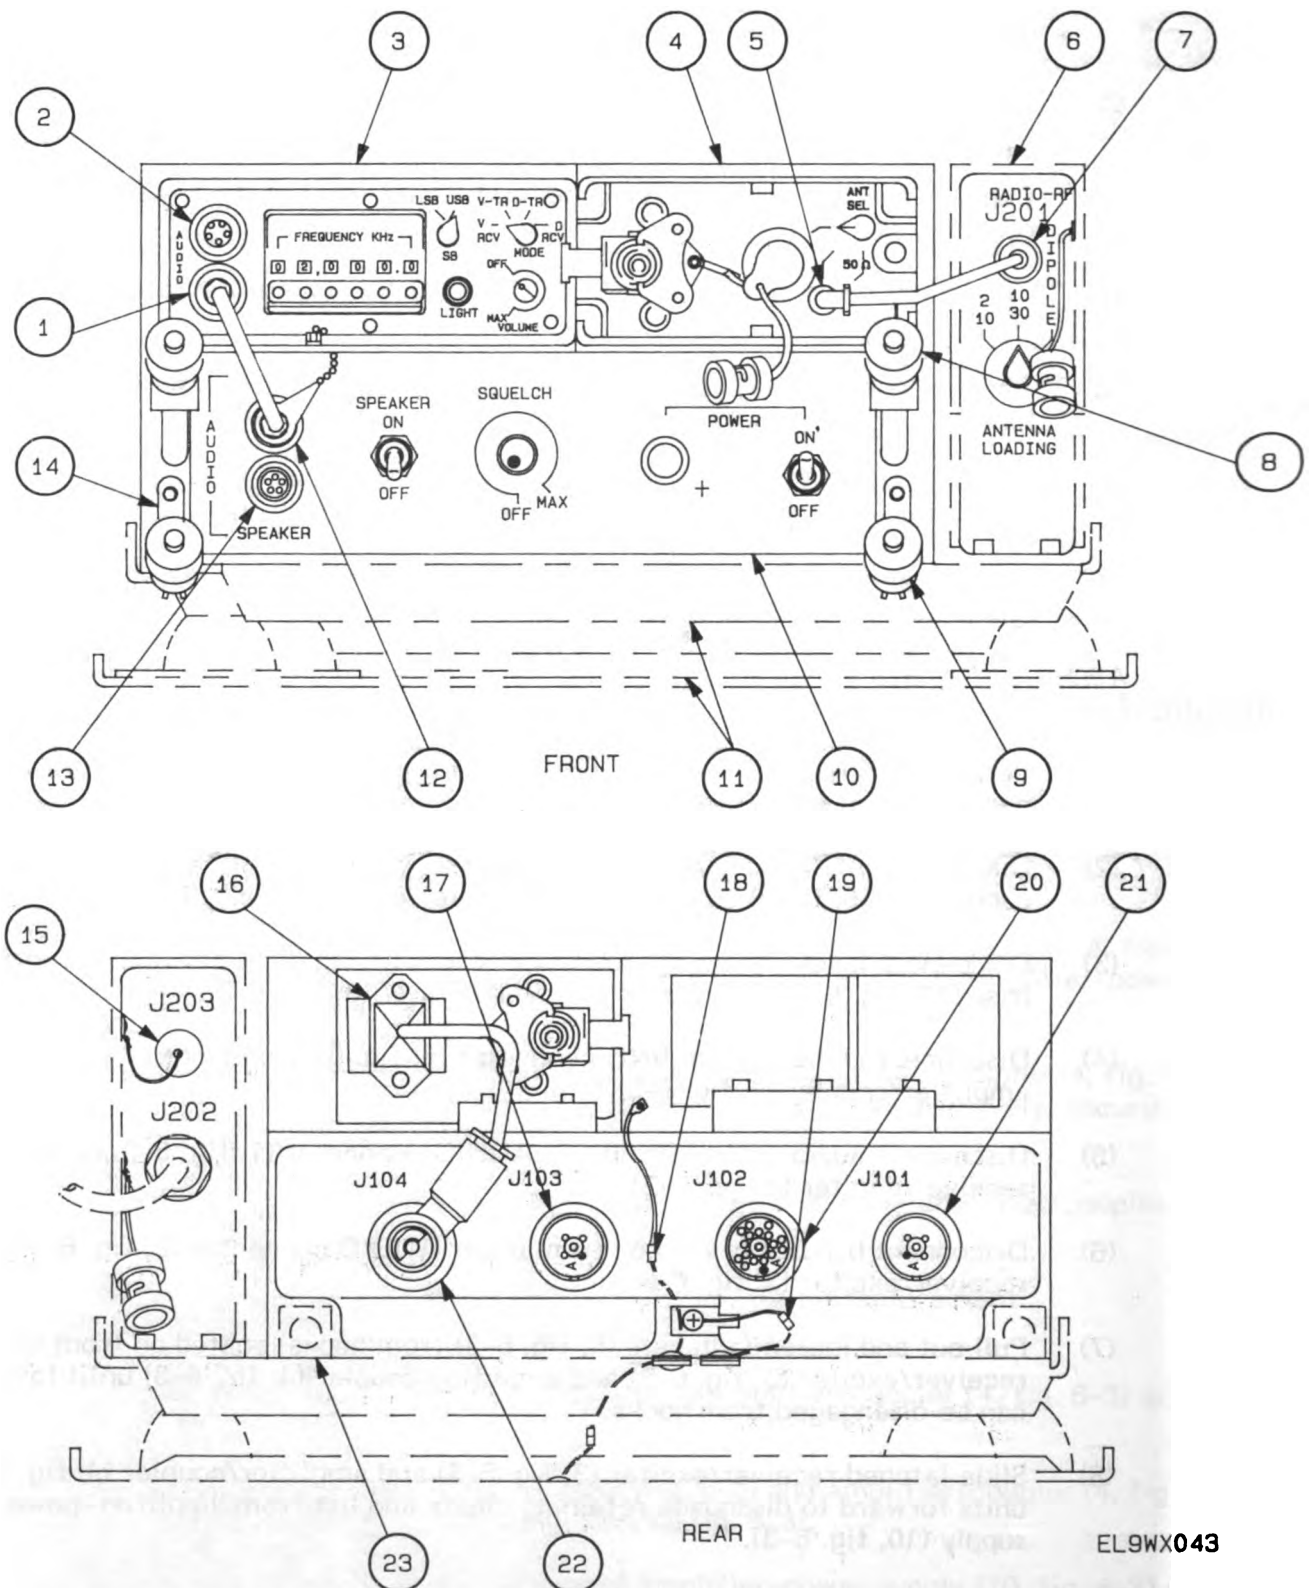

Figure 6-3. Removal and Installation of AN/GRC-213 Units and Cables
- (1) Verify POWER circuit breaker on amplifier-power supply is set to OFF. If necessary, set circuit breaker to OFF.
- (2) Disconnect AN/PRC-104A power cable from AN/PRC-104A power input connector (16, fig. 6-3) on rear of amplifier/coupler (4, fig. 6-3).
- (3) Disconnect quick-release ground connector (18, fig. 6-3) between mounting base (11, fig. 6-3) and rear of receiver/exciter (3, fig. 6-3).
- (4) Disconnect rf cable from BNC connector (5, fig. 6-3) on front of amplifier/coupler (4, fig. 6-3).
- (5) Disconnect audio cable from lower AUDIO connector (1, fig. 6-3) on front of receiver/exciter (3, fig. 6-3).
- (6) Disconnect handset or cw key from upper AUDIO connector (2, fig. 6-3) on receiver/exciter (3, fig. 6-3).
- (7) Pull out and loosen fasteners (8, fig. 6-3) from hooks located on front of receiver/exciter (3, fig. 6-3) and amplifier/coupler (4, fig. 6-3) until fasteners can be disengaged from hooks.
- (8) Slide latched receiver/exciter (3, fig. 6-3) and amplifier/coupler (4, fig. 6-3) units forward to disengage retaining cleats and lift from amplifier-power supply (10, fig. 6-3).
- (9) Lay latched receiver/exciter (3, fig. 6-3) and amplifier/coupler (4, fig. 6-3) on a flat surface and unfasten front and rear latches, respectively, securing the receiver/exciter and amplifier/coupler together.
- (10) Carefully separate receiver/exciter (3, fig. 6-3) from amplifier/coupler (4, fig. 6-3).
- (1) Secure receiver/exciter (3, fig. 6-3) to amplifier/coupler (4, fig. 6-3) and fasten latches.
- (2) Place latched receiver/exciter (3, fig. 6-3) and amplifier/coupler (4, fig. 6-3) on top of amplifier-power supply (10, fig. 6-3).
- (3) Slide latched units toward rear of amplifier-power supply (10, fig. 6-3) until receiver/exciter (3, fig. 6-3) and amplifier/coupler (4, fig. 6-3) fully engage retaining cleats on amplifier-power supply.
- (4) Tighten fasteners (8, fig. 6-3) over hooks located on front of receiver/exciter (3, fig. 6-3) and amplifier/coupler (4, fig. 6-3) until both units are securely attached to top of amplifier-power supply (10, fig. 6-3).
- (5) Connect audio cable to lower AUDIO connector (1, fig. 6-3) on receiver/exciter (3, fig. 6-3).
- (6) Connect handset or cw key to upper audio connector (2, fig. 6-3) on receiver/exciter (3, fig. 6-3).
- (7) Connect rf cable to BNC connector (5, fig. 6-3) on amplifier/coupler (4, fig. 6-3).
- (8) Connect quick-release ground connector (18, fig. 6-3) between mounting base (11, fig. 6-3) and rear of receiver/exciter (3, fig. 6-3).
- (9) Connect AN/PRC-104A power cable to AN/PRC-104A power input connector (16, fig. 6-3) on rear of amplifier/coupler (4, fig. 6-3).
- (10) Complete Minimum Performance Test, paragraph 6-8, to verify proper operation of the AN/GRC-213.
- (1) Secure amplifier/coupler (4, fig. 6-3) to receiver/exciter (3, fig. 6-3) and fasten latches.
Sparks may damage power cable or connector J101 (21, fig. 6-3) if POWER circuit breaker is not properly set to OFF in the following steps.
- (2) Set POWER circuit breaker on amplifier-power supply (10, fig. 6-3) to OFF.
- (3) Disconnect power cable from connector J101 (21, fig. 6-3) located on rear of amplifier-power supply (10, fig. 6-3).
- (4) If AN/VIC-1(V) is used, disconnect intercommunication cable from connector J102 (20, fig. 6-3) on rear of amplifier-power supply (10, fig. 6-3).
- (5) If parallel radio set is used, disconnect its power cable from connector J103 (17, fig. 6-3) on rear of amplifier-power supply (10, fig. 6-3).
- (6) Disconnect quick-release ground connectors (18 and 19, fig. 6-3), located on rear of receiver/exciter (3, fig. 6-3) and rear of amplifier-power supply (10, fig. 6-3), from mounting base (11, fig. 6-3).
- (7) Disconnect loudspeaker from SPEAKER AUDIO connector (13, fig. 6-3) on amplifier-power supply (10, fig. 6-3).
- (8) Disconnect handset or cw key from upper AUDIO connector (2, fig. 6-3) on receiver/exciter (3, fig. 6-3).
- (9) Disconnect rf cable from BNC connector (5, fig. 6-3) on amplifier/coupler (4, fig. 6-3).